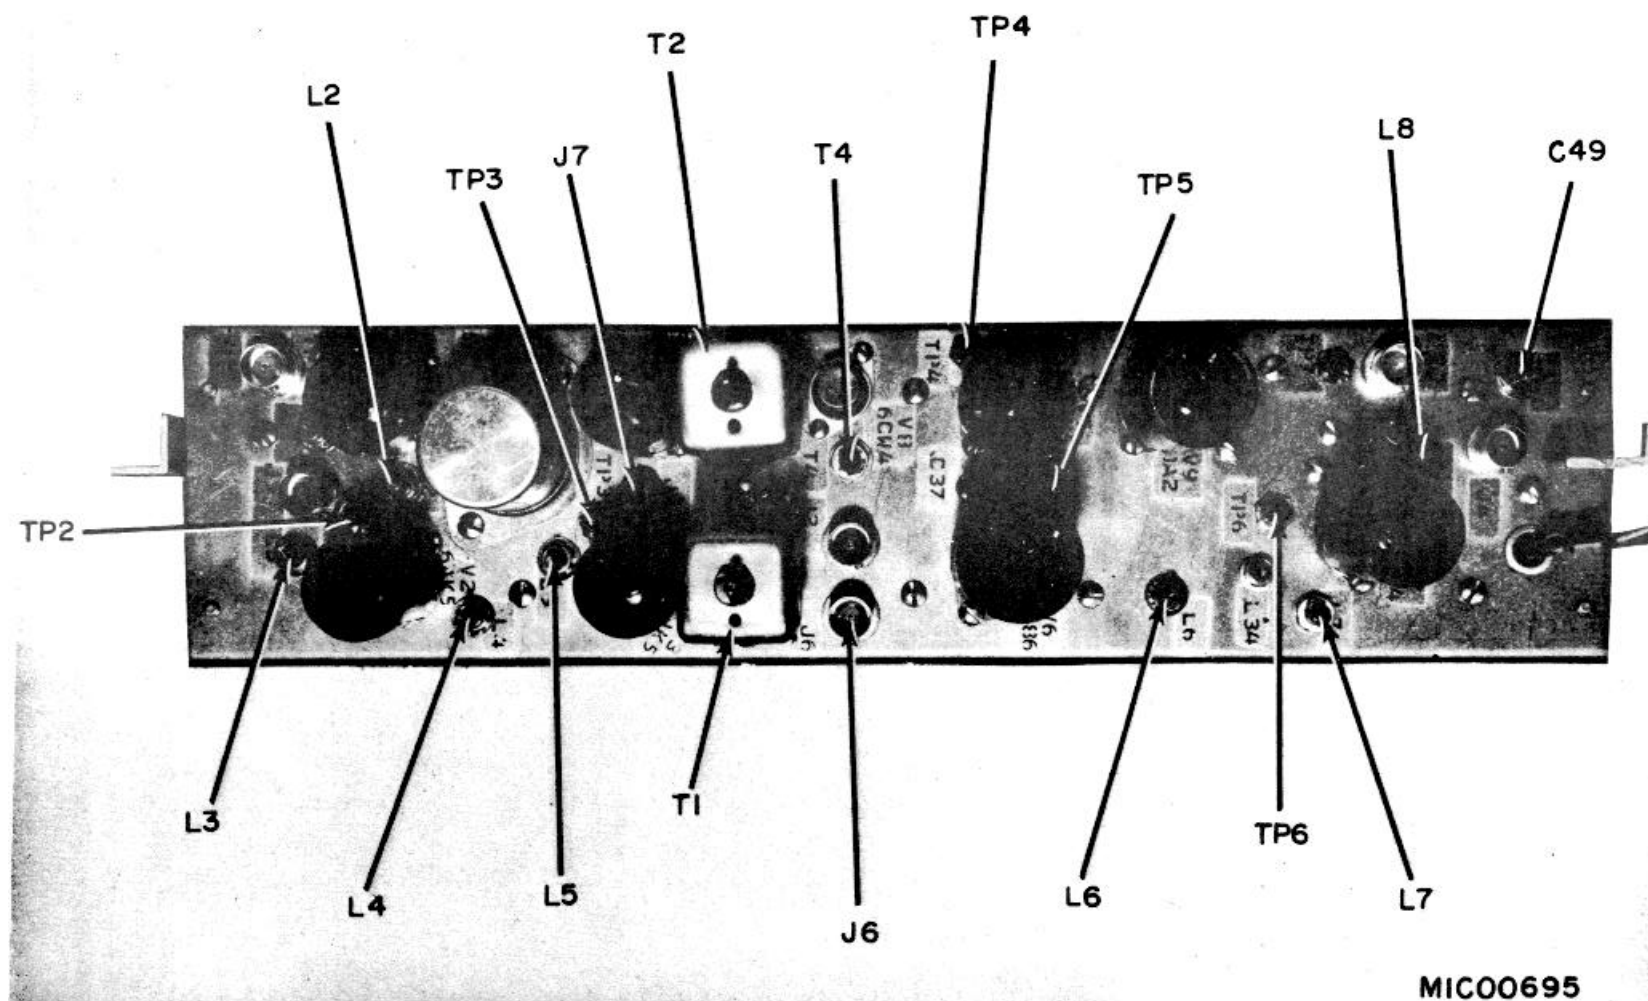
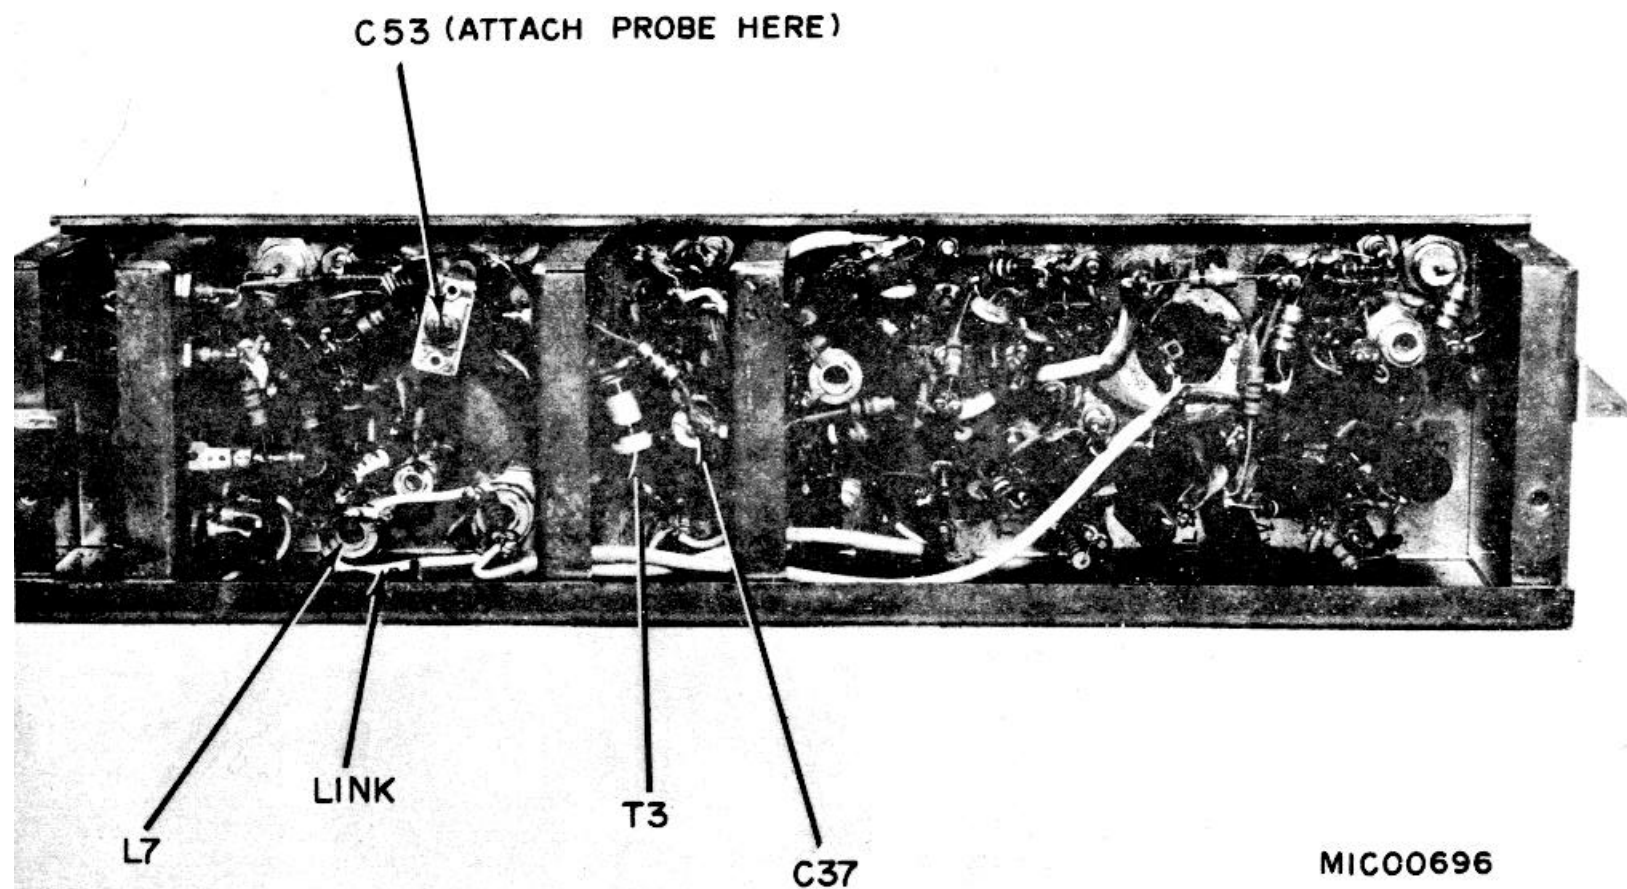
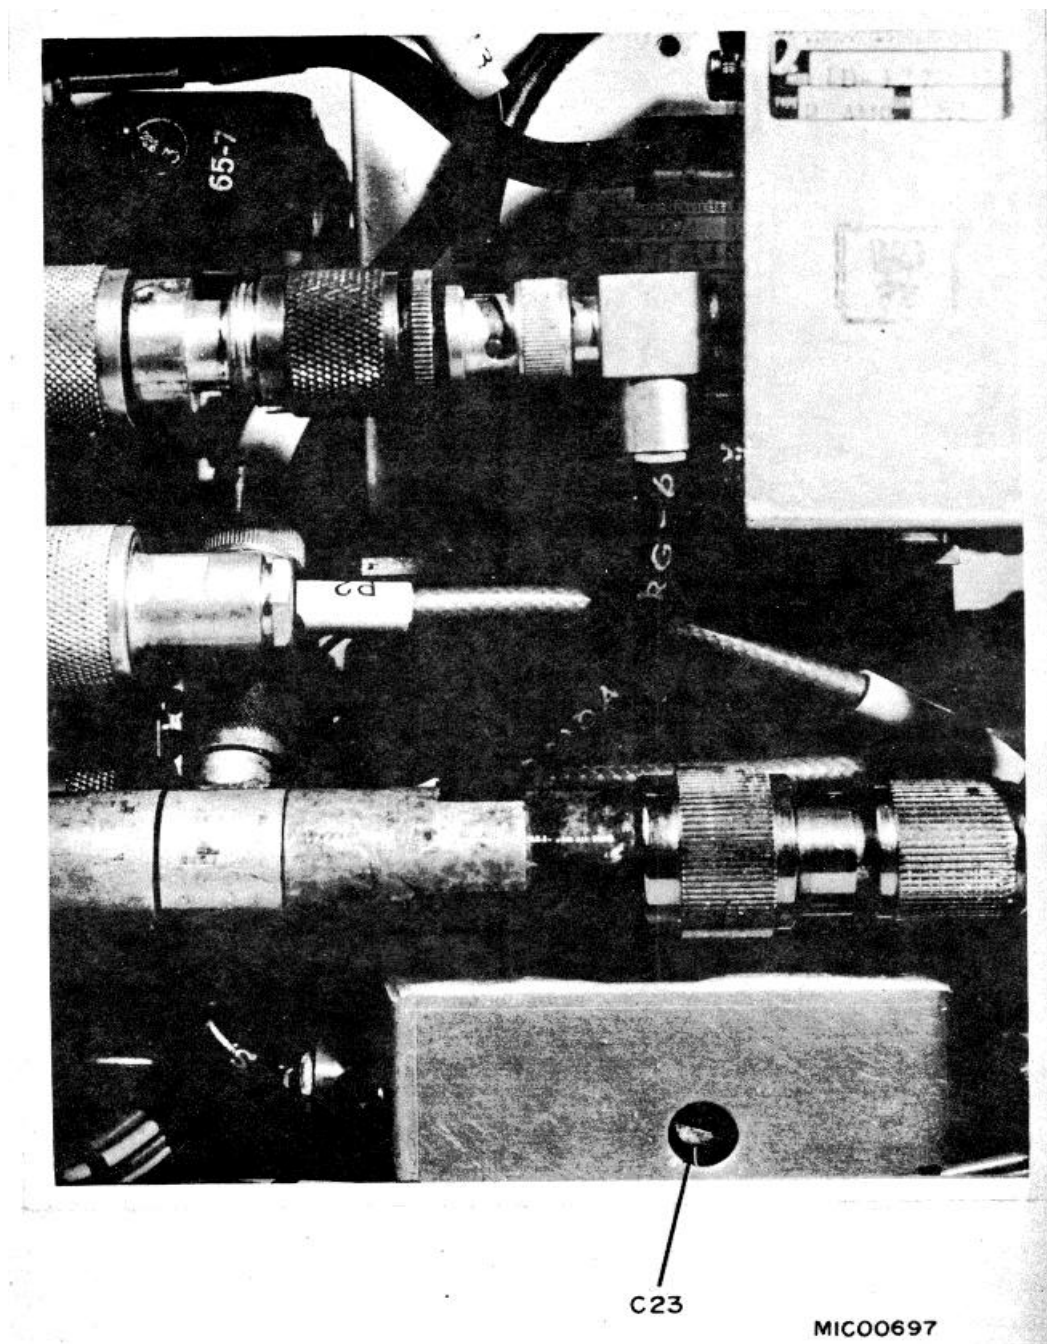
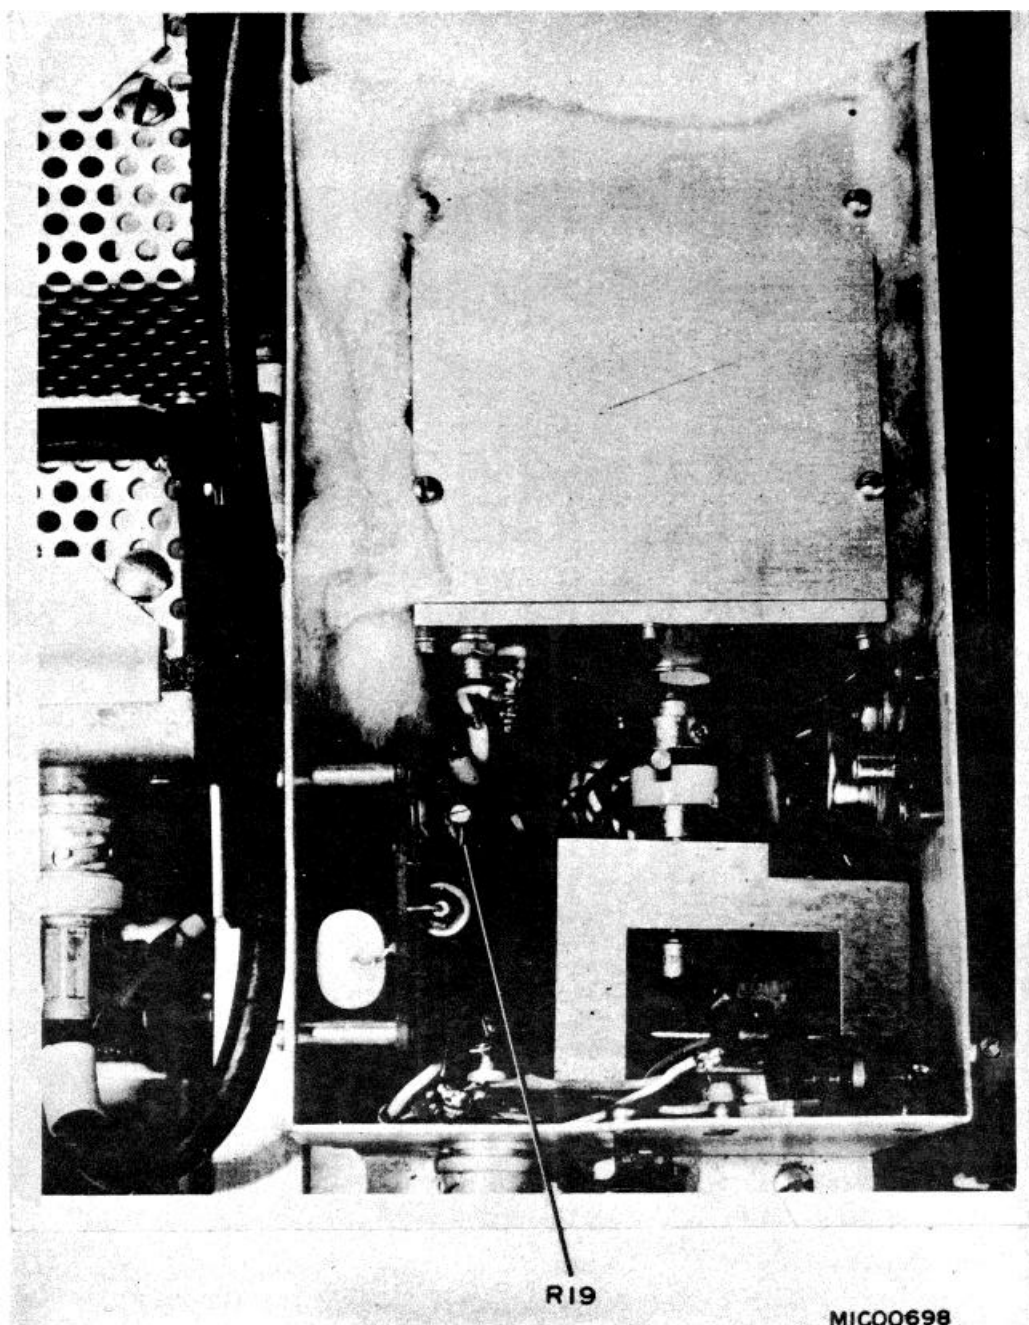

Figure 6-8. Multiplier - top view.
Figure 6-9. Multiplier - bottom view.
Figure 6-10. Main frame right side.
Figure 6-11. VCO box-top view.
- Connect VOM between TP2 (Fig. 6-8) and ground and adjust L2 and L3 (Fig. 6-8) for a peak reading of -1.2 volts de F.5 volt.
c. Disconnect P1 from J7 (Fig. 6-8) and ground J7. Connect the VOM between TP3 (Fig. 6-8) and ground. Adjust L4 and L5 (Fig. 6-8) for a peak reading of -volts dc  $\pm 1$  volt. Remove ground and reconnect P1.
d. Connect 10:1 probe through a 40-db pad to spectrum analyzer. Connect probe tip and VTVM to the junction of C80, C53, and C54 (Fig. 6-9). Adjust top and bottom of T1 (Fig. 6-8) and C53 for a maximum 20-MHz display with a minimum of 2.8 volts ac, as indicated on the VTVM.
e. Connect the VOM between TP4 (Fig. 6-8) and ground. Adjust top and bottom of T2 (Fig. 6-8) until a peak is obtained of -4 volts dc  $\pm 1$  volt.
f. Connect the spectrum analyzer with the 10:1 probe through the 40-db pad and the VTVM to J6 (Fig. 6-8). Adjust T4 (Fig. 6-8) for a maximum 25-MHz indication with an amplitude of 2.4 volts ac minimum as indicated on the VTVM.
g. Connect VOM between TP5 (Fig. 6-8) and ground. Adjust C37 and T3 (Fig. 6-9) for a peak indication of -7.5 volts dc +1 volt. Repeat as required due to interaction.
h. Set up synchronizer for locked L band operation (TM 9-4931-294-15-1) and connect the VOM to TP6 (Fig. 6-8). Adjust L6 and L7 (Fig. 6-8) for a peak reading of -18 to 20 volts dc on the VOM.
To obtain this voltage, it may be necessary to loosen or tighten the coupling between L6 and L7. This is accomplished by moving the link (Fig. 6-9) on or off of L7 only (Fig. 6-9). If the link is moved, it must be reglued.
j. Set up synchronizer for locked A band operation (TM 9-4931-294-15-1) and adjust C23 (Fig. 6-10), C49, and L8 (Fig. 6-8) for peak indication on signal level meter.
a. Connect a Simpson 260 set on the 50-volt range to TP6 (Fig. 6-8) and counter to 5 MC reference output. Remove cover of VCO box and adjust R19 (Fig. 6-11) maximum counterclockwise (10 turns).
**If A and K band heads are not available, use the next highest band RF head. Proceed with remainder of the procedure with the exception of the adjustment of C23 (Fig. 6-10).**
- k. Peak level meter, using C49 and L8 (Fig. 6-8).